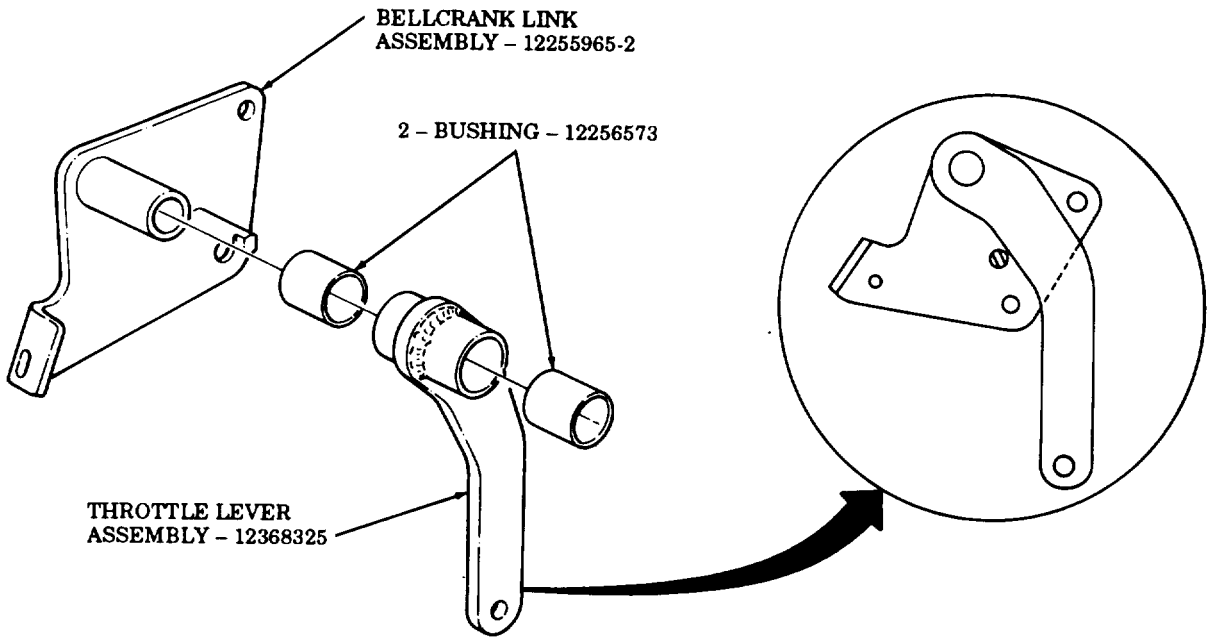

FIGURE 6
- (1) Install two 12256573 bushings and 12368325 throttle lever assembly on 12255965-2 bellcrank link assembly as shown in figure 6.